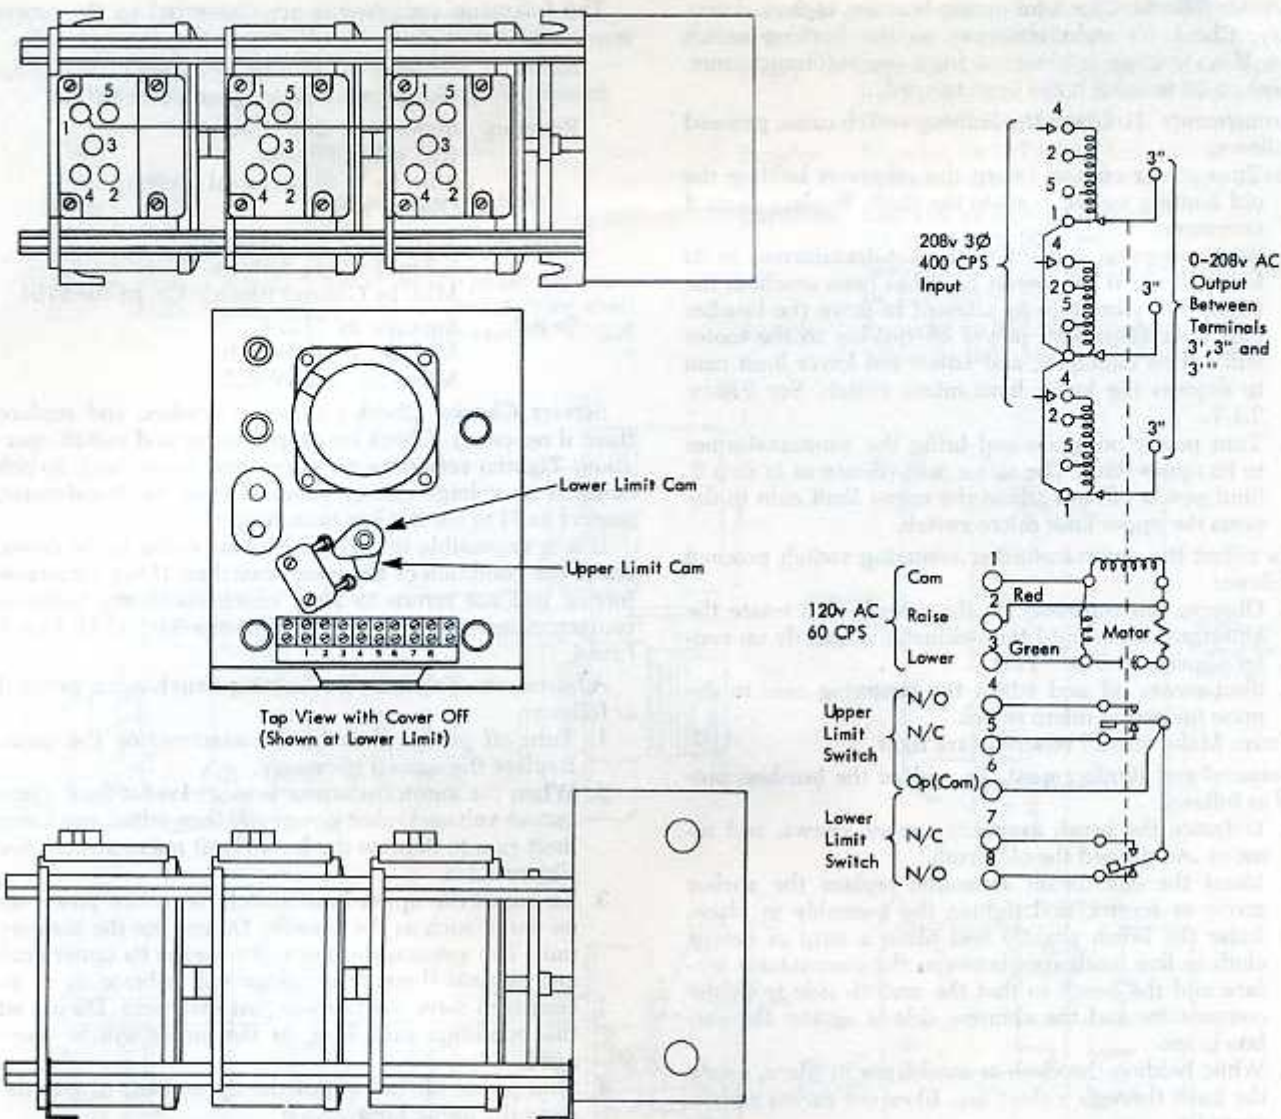

Figure 3.1-8. Variable Autotransformer for Power Sequencing
See Figure 3.1-8. Specifications on this autotransformer follow:
2. When the autotransformer is at its lowest limit (zero output voltage), shut power off, then adjust the lower limit cam to depress the lower limit micro switch. See Figure 3.1-8.